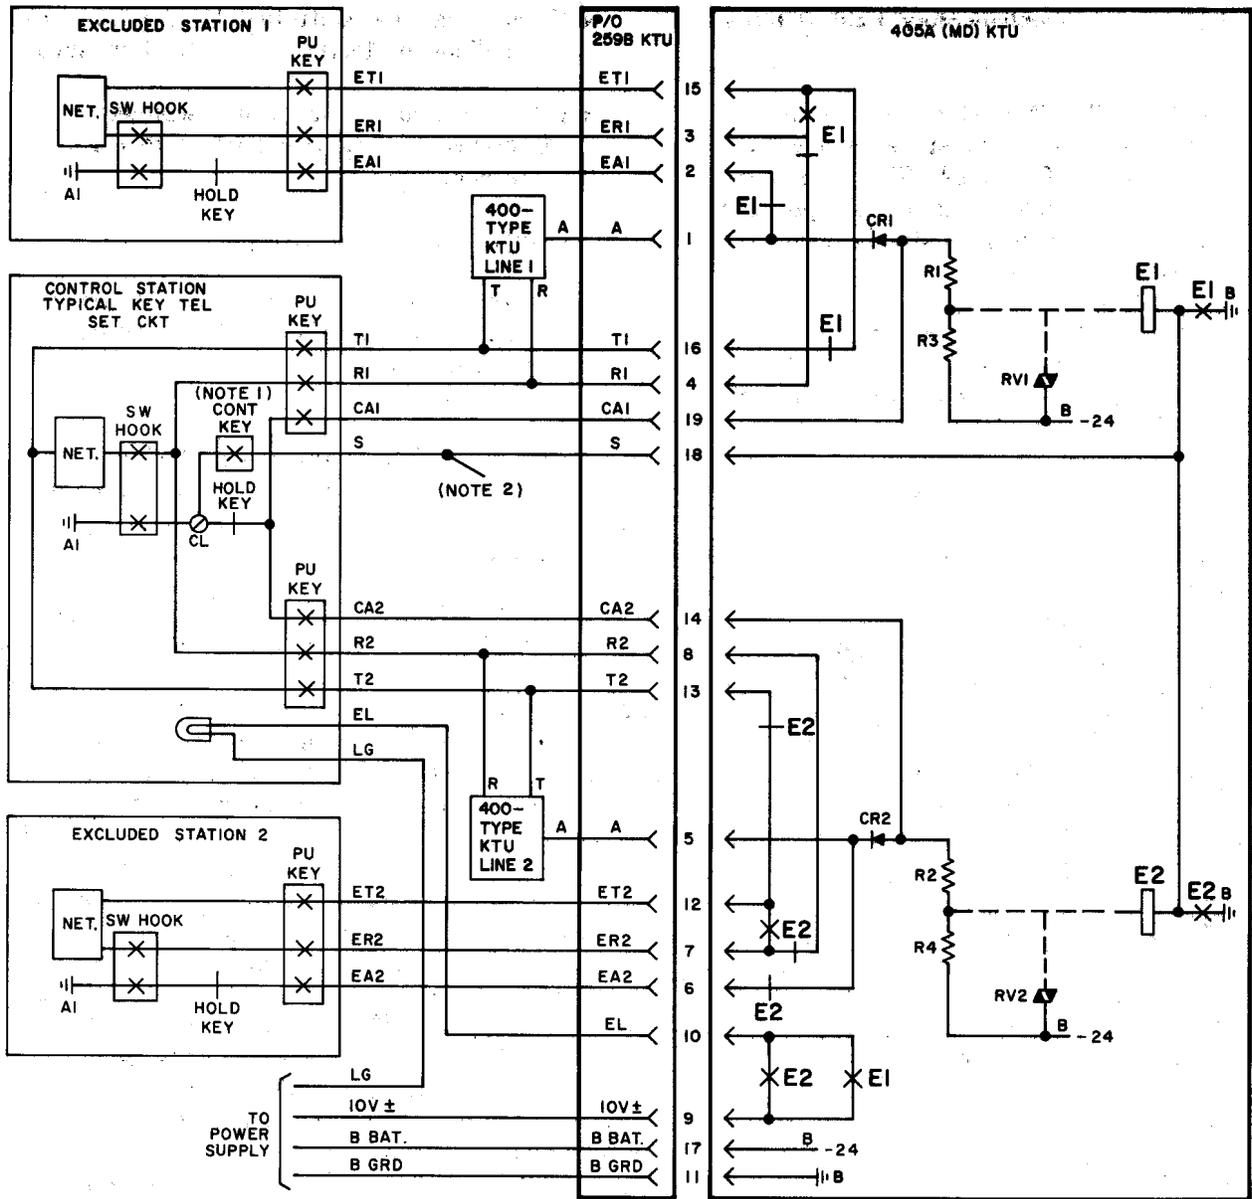

Fig. 3—Condensed Functional Schematic of 405A KTU (MD) (Multiline Exclusion Circuit)
1.05 Functional schematics (Fig. 3 through 14) cover the basic circuitry of each KTU, contacts used, and its relationship to telephone sets, other KTUs, power supplies, and apparatus. Dashed lines are used to simplify the schematics and to indicate intermediate circuitry. If full schematics are required, refer to the SDs listed in paragraph 1.08.
A. 405A KTU (MD) (Multiline Exclusion Circuit)
2.01 The 405A KTU (MD) (Fig. 3) is a 4-inch, 20-contact unit which must be used with a 259B or 272A KTU. The 405A KTU has been replaced by the 428A KTU (see paragraph 2.06 for features) which conforms to standard contact lead configuration.